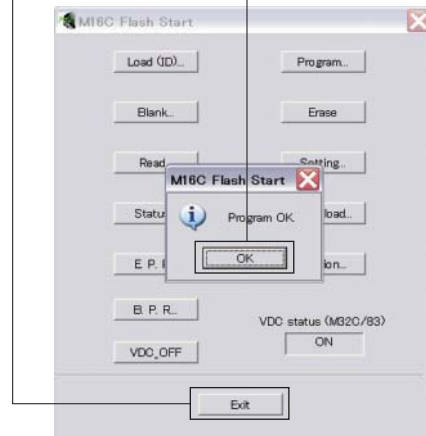

Fig. 7
8. When writing of the firmware is completed, the screen appears as shown below. (Fig. 7)
Click [OK]. (Fig. 7)
9. Click [Exit] to end FlashSta.exe. (Fig. 7)
画面が表示されます。(Fig. 7)
[OK] をクリックします。(Fig. 7)
(Fig. 7)